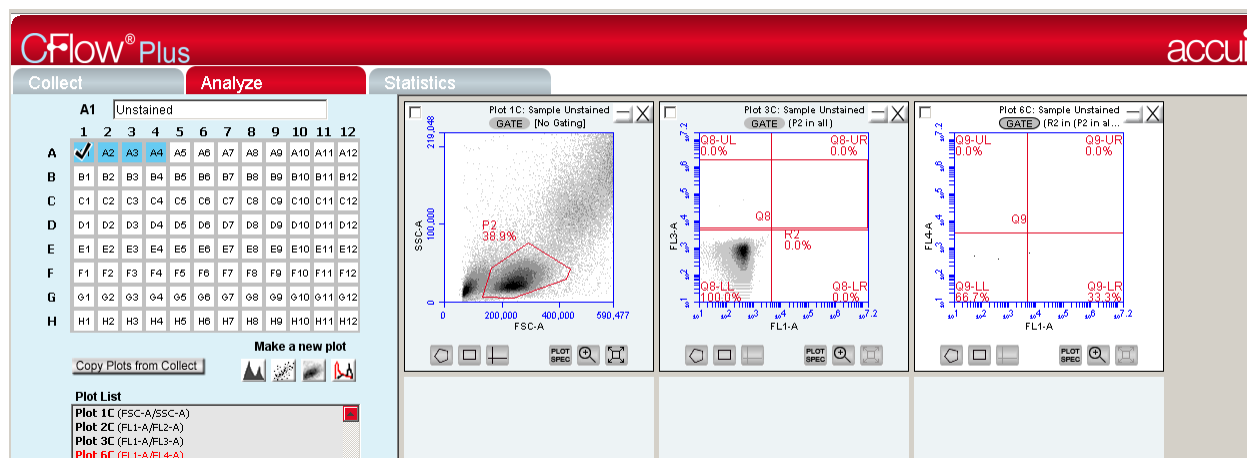

Figure 4-5 Analyze Tab: Result of gating Plot 3C on "P2 in all" and Plot 6C on "R2 in (P2 in all)"
9. On Plot 6C, click on the Gate button and select to include “R2 in (P2 in all)” (Figure 4-5).